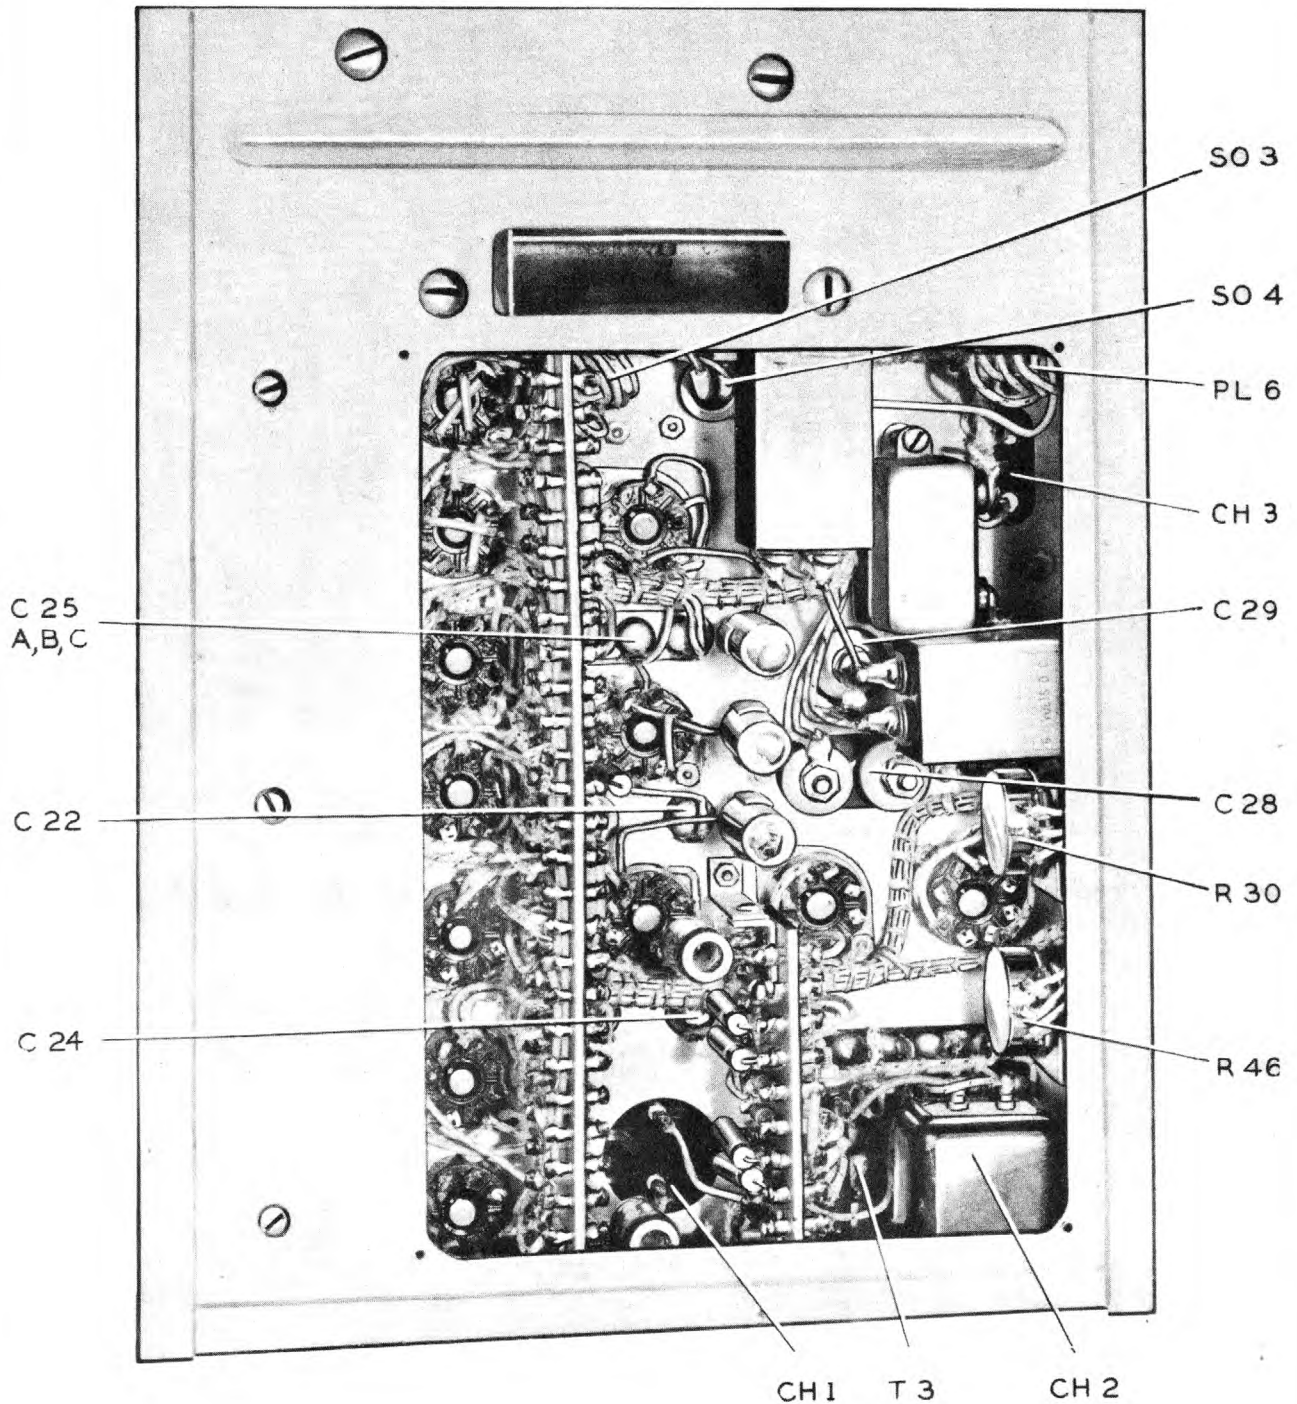

Figure 5-10. Radar Receiver R-34/APR-2—Bottom View with Cover Removed (Direct View)
(1) Preamplifier-trigger cable plug PL-4.
(2) Commutator cable plug PL-3.
(3) Plug PL-6. (See fig. 5-10.)